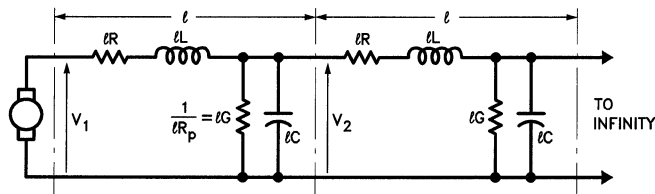
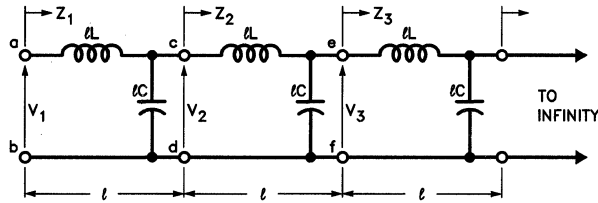

Figure 2.1. Transmission Line Model
Figure 2.2. Ideal Transmission Line Model
An equivalent circuit for a transmission line is presented in *Figure 2.1*. It consists of subsections of series resistance (R) and inductance (L) and parallel capacitance (C) and shunt admittance (G) (or parallel resistance, R_p). For clarity and consistency these parameters will be defined per unit length. The value of the parameter (R, L, C, R_p) must be multiplied by the length of the subsection, l , to find the total value. The line is assumed to be infinitely long.
If the line of *Figure 2.1* is assumed to lossless ($R = 0$, $R_p = \text{infinity}$) *Figure 2.1* is reduced to *Figure 2.2*.
We shall now calculate the characteristic impedance (AC impedance or surge impedance) looking into terminals a-b of Figure 2.2.